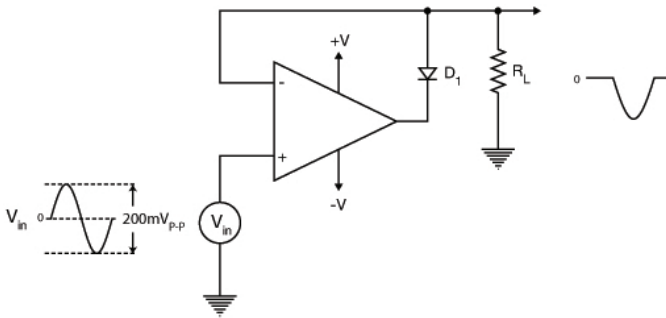

Figure 17.12 Precision rectifier.
A **precision half-wave op-amp rectifier** is shown in **Figure 17.12**. Note that this circuit has only an op-amp and a diode in its construction. The
28. In the op-amp/silicon diode precision rectifier shown in **Figure 17.12**, when an AC input is applied, rectification occurs:
29. When an AC input voltage is applied to the precision rectifier circuit of **Figure 17.12**, the output is a(n):